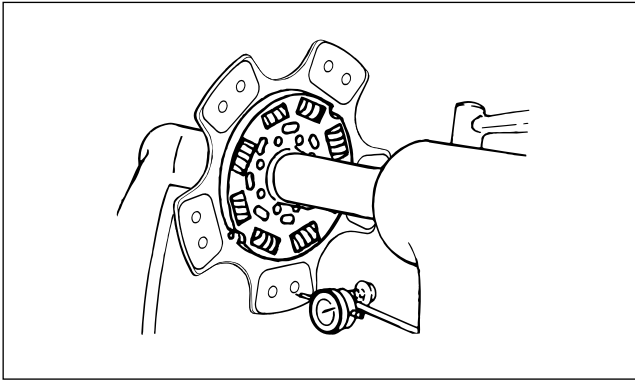

Figure 13. Driven plate.
- Clutch Disc warpage (figure 13).